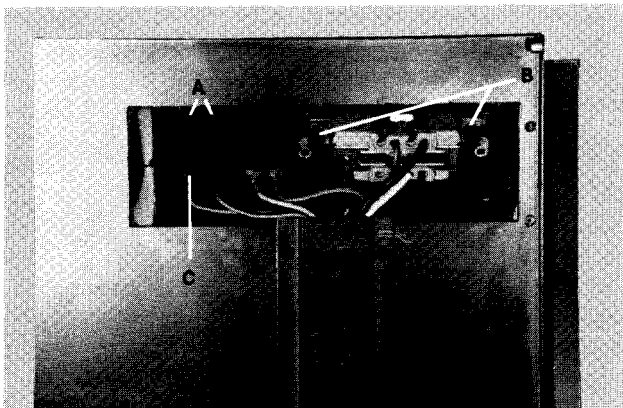

Fig. 12
- 8) Squeeze switch mounting clips together and work switch out by alternately pushing each side of the switch. A flat screwdriver can be used to help push the switch out. See Item A, Fig. 12.
- 10) Remove (2) # 8 lock nuts, Item B, Fig. 12 using a 11132 nut driver.
- 11) Remove (1) # 6 flat head screw from front of panel.
located at bottom of switch. See Item C, Fig. 12. Push switch in until chrome bezel touches nameplate.
- 19) Position receptacle on (2) # 8 weld studs.
- 22) Replace (2) # 8 lock nuts onto weld studs using a 11132 nut driver. See Item B, Fig. 12.
- 23) Replace (1) # 6 flathead Phillips screw in front of panel through nameplate into receptacle.